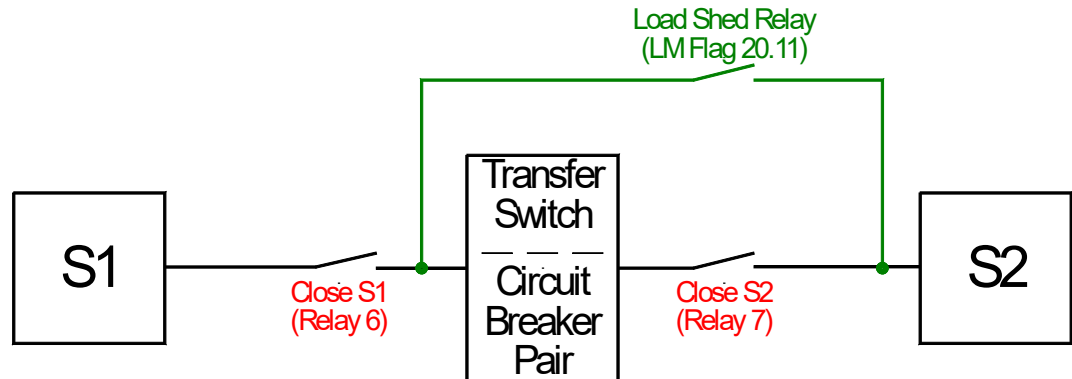
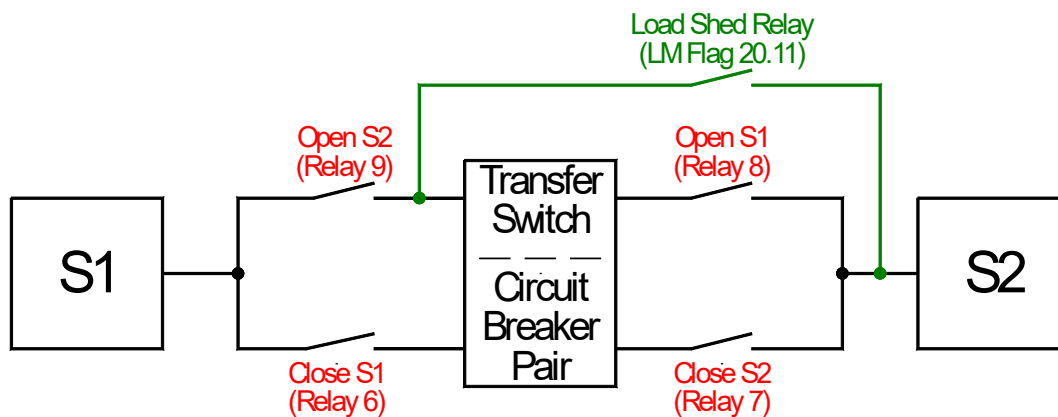

Figure 0-9: Load shed relay wiring - standard transition switch
Figure 0-10: Load shed relay wiring - delayed or closed transition switch
- If transfer switches are used, which may only be operated in case a measuring voltage is present, a transfer to the preferred source may only be possible, when it is present. If only the non-preferred source is present, the *LogicsManager* flag "Load shed" (20.11) will be enabled. This flag enables to close a load shed relay, which connects the voltage of the non-preferred source to the preferred source side of the transfer switch to operate it. If the neutral position (delayed / closed switch) or the preferred source position (standard switch) is detected by the DTSC, the load shed signal will be reset again. Refer to Figure 0-9 and Figure 0-10 for more detailed information.
Figure 0-9 shows how to wire a load shed relay for applications, which use a standard transition switch (S1 is the preferred source and S2 is the non-preferred source with this application).
Figure 0-10 shows how to wire a load shed relay for applications, which use a delayed or closed transition switch (S1 is the preferred source and S2 is the non-preferred source with this application).